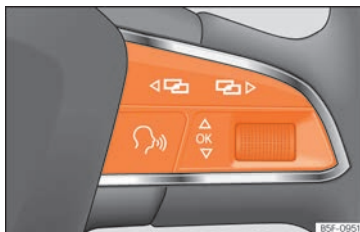

**Fig. 81** Multifunction steering wheel: buttons for using the instrument panel menus.
hidden with the button **OK** of the multifunction steering wheel »» Fig. 81.
- If a message or vehicle symbol is displayed, press the button **OK** »» Fig. 81; if necessary, several times.
- To change menus, use buttons **<** or **>** »» Fig. 81.
- To open the menu or the information displayed, press the button **OK** »» Fig. 81 or wait a few seconds until the menu or the informative display opens automatically.
- In the menu displayed, turn the right thumb-wheel of the multifunction steering wheel »» Fig. 81 until the desired option of the menu is highlighted. The option appears framed.
- Press the button **OK** »» Fig. 81 to make the required modifications. A mark indicates that the system or function is activated.
Press the button **<** or **>** »» Fig. 81.